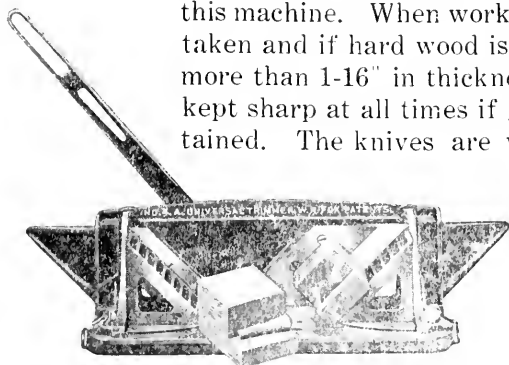

Fig. 58--TRIMMING INTO A CHECK
**63. General. Trimmers,**-- Figs. 58 to 62, were invented primarily for the use of pattern makers and when used for other processes should be used only after you have learned to preform these operations thoroughly and quickly by hand. This machine, like the miter saw, should not be used by beginners in order to avoid learning to do the various process by hand. Always take very thin cuts when using this machine. When working soft wood  $\frac{1}{8}$ " cut may be taken and if hard wood is used, the cut should not be more than 1-16" in thickness. The machine must be kept sharp at all times if good results are to be obtained. The knives are very hard and in grinding
show the possible range of work by means of auxiliary gauges which are furnished with most trimmers. Fig. 58 illustrates the trimming of a shoulder for either a half lap or a tenon. This is called trimming into a check. The gauge as well as the knife stands at an angle of 45 degrees, which makes it possible to trim down to the bottom leaving a square and smooth surface.